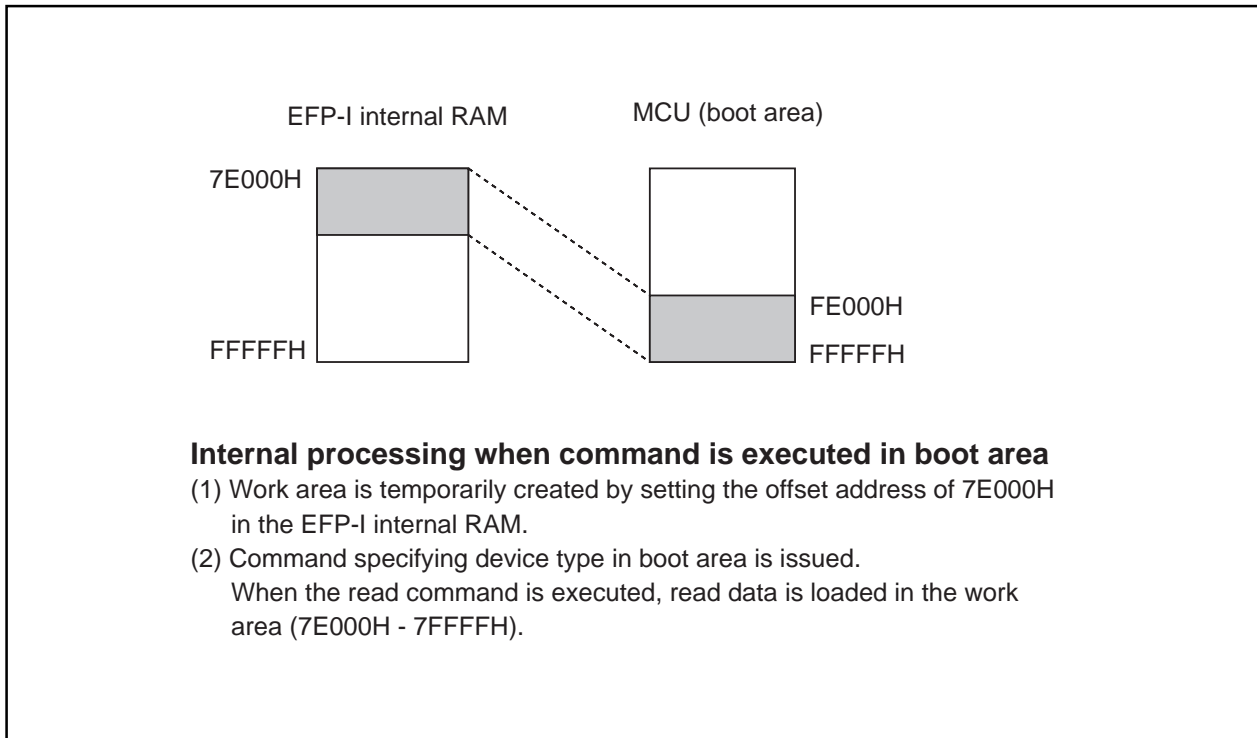

Fig. 9.2: Work Area
*Because normal area and address space overlap for boot area, a work area of 7E000H to 7FFFFH in the EFP-I's internal RAM is allotted to the boot area. Fig. 9.2 shows a sketch drawing of the work area.